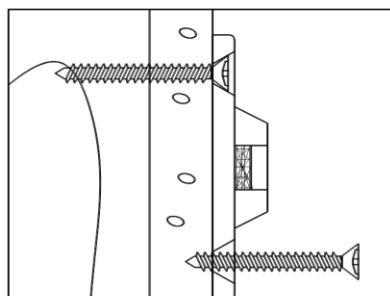
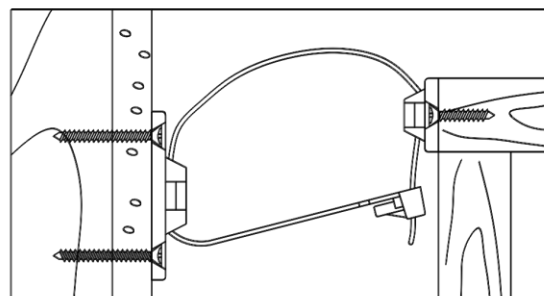

Figure 2
Figure 3
- 3) MOUNTING THE WALL-SIDE BRACKET:** Position the wall-side bracket along the selected stud mark so that it will be adjacent the furniture-side bracket when the furniture item is moved to its final position. The wall-side bracket should be about ONE inch lower than the furniture-side bracket (See Figure 3). Use the TWO long screws to secure the wall-side bracket to the wall. Remember to position the wall-side bracket vertically so that both screws will engage the selected wall stud (See Figure 2).